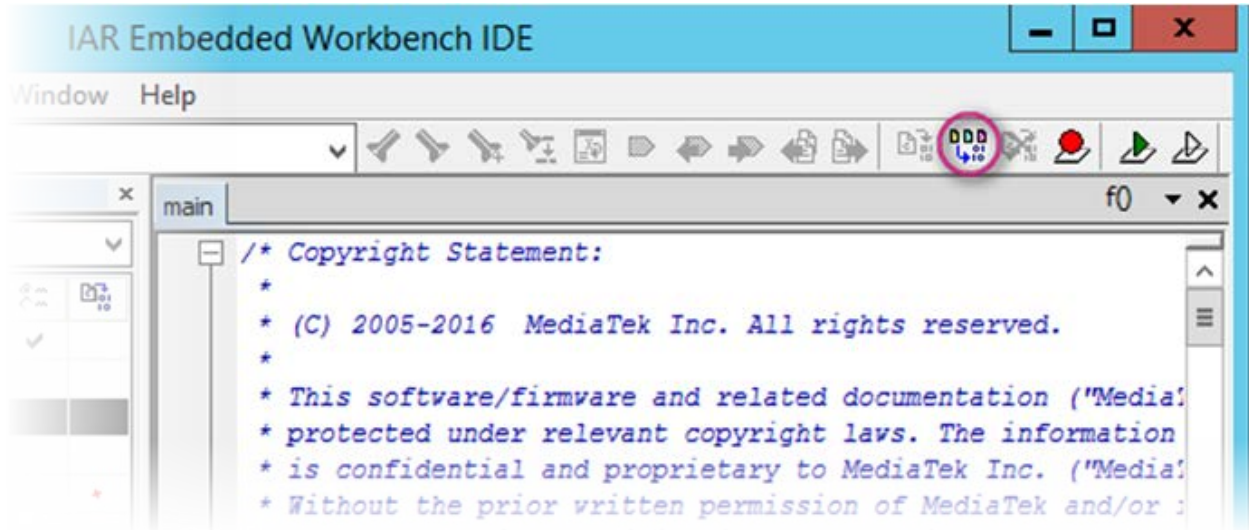

Figure 61. Rebuild the project
- 3) Click **Rebuild** to build the project, as shown in Figure 61.